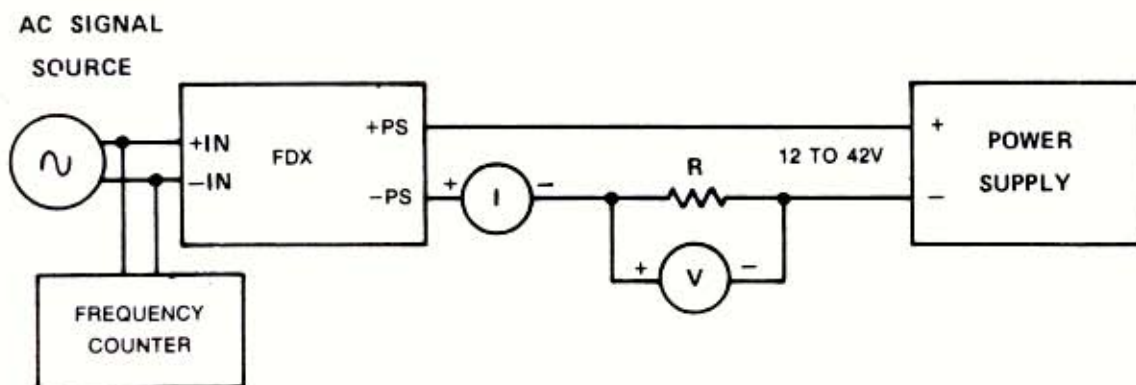

Figure 2-1. Test Equipment Setup For Calibration of Unit
The test equipment set-up required to calibrate an FDX unit is shown in Figure 2-1.
An audio-frequency signal generator, a frequency counter, and an output monitoring device are required for calibration. The audio-frequency generator must have a range covering the frequencies with which the unit will be used. The frequency counter determines the frequency of the applied input signal to the required accuracy; the frequency of the audio-frequency signal generator cannot be read directly to the same degree of accuracy as the frequency counter. The monitoring device must have an accuracy of within 0.05% of better. Refer to Figure 2-1 for test equipment setup.
- a. Leaving the signal generator temporarily disconnected and short circuiting the input terminals of the unit, connect the FDX and test equipment as shown in Figure 2-1.